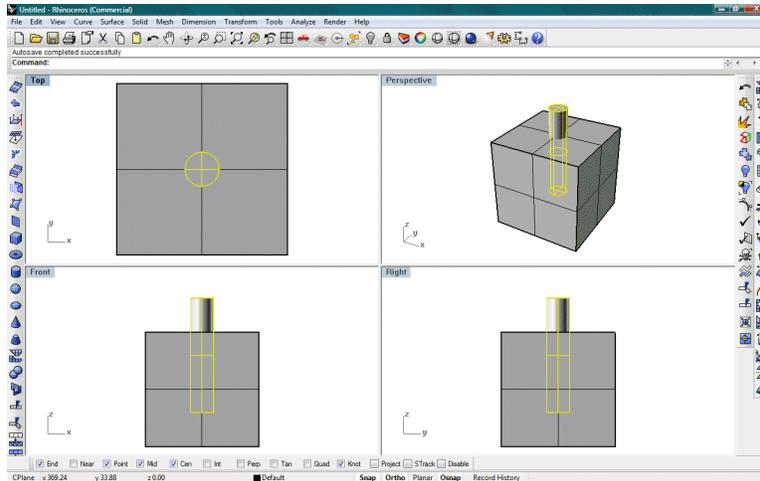

Figure 39: Cylinder (highlighted) partially inside the box.
3. To move the cylinder down by 40 feet, select the cylinder and select the menu item **Transform | Move**. Enter **0,0,0** followed by **<ENTER>**. Enter **0,0,-40** followed by **<ENTER>** (Figure 39).